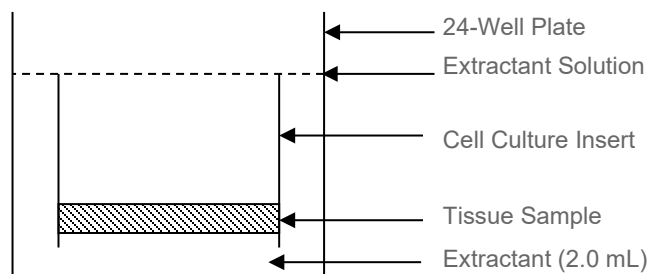

Figure 3: Extraction Configuration (room temperature in dark)
- b) **Add extractant:** Immerse the cell culture inserts with 2.0 mL of the extractant solution per well to completely cover the cell culture insert. See Figure 3. Cover the extraction plate to reduce evaporation of extractant. Note: If the test article is colored and does not completely rinse off, pipet 1.0 mL of extractant into each well